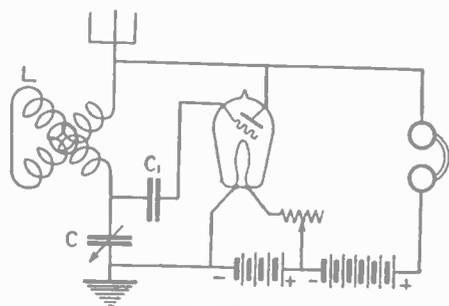
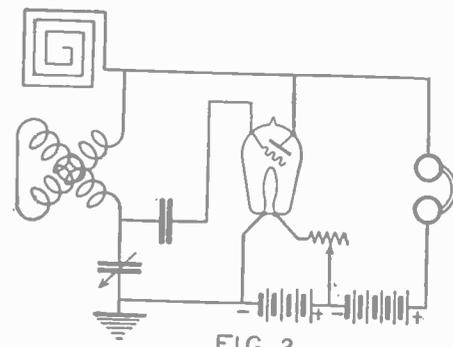

FIG. 1
FIG. 2
At the nose of the front cone is an adjusting nut and support marked (M) in Fig. 1. A detail of this is shown in the diagram.
From a scrap of thin sheet copper cut a circular piece about two inches in diameter and cut from this a fan-shaped piece as shown in the detail. Drill an eight-inch hole in the center, center the piece of brass rod on this and solder carefully. Then bend the blades of the fan back to an angle that will correspond to that of the sides of the cone. Cut an opening in the nose of the front cone to admit the piece of brass rod. Roughen the face of the fan with emery, apply glue and fasten it to the inner side of the nose of the cone with the brass rod protruding as shown at (M), Fig. 1.
Constructional details of two types of paper cone speakers. The one shown at Fig. 1 has a closed back and the one at Fig. 2 an open back. A Baldwin phone is used as the loud speaking unit.
audion," consists of an inductance, fixed or variable, a variable condenser, tube rheostat, socket, batteries and phones. The inductance may be a one slide tuning coil, a tapped coil, a fixed coil of about seventy turns, or a variometer, the forty-three or twenty-three plate variable with a vernier. The advantage of the vernier may be seen from the fact that about six or seven stations may be tuned in and out by merely rotating it through 180 degrees. It is also desirable to use a vernier rheostat as the tube oscillates easily. The circuit is shown in Fig. 1.
The set is well adapted for experimenting as the type of aerial is not critical. Using a two-foot loop consisting of ten turns of No. 18 D.C.C. connected as shown in Fig. 2, I have had but little trouble in picking up KFKA, WWJ, WSB and WOC.
The real difference in the type of loud speaker shown at Fig. 2 is that only one cone is used and a different material composes the cone. For the latter secure a drum head approximately eighteen inches in diameter. This can be obtained from any musical supply store. It will be found to have a narrow wooden rim around the edge on which it is mounted. This should be reinforced with fairly heavy sheet brass. This can be cut out in arc segments of the proper width and fastened to the wood rim with small brass screws.
The rim of the membrane is supported by three arms of wood as shown in Fig. 2. The other parts and the adjustment are the same as for the first described speaker.
The secondary of the audio transformer may be connected in series with the input coupler as in Fig. 2 or in parallel as in Fig. 3. The last named is the suggested
Fig. 2. Another method of reflexing using one tube and crystal detector. The primary is semi-a-periodic, the secondary is 60 turns (tapped at the 30th turn). Both variable condensers are of .0005 mfd. capacity.